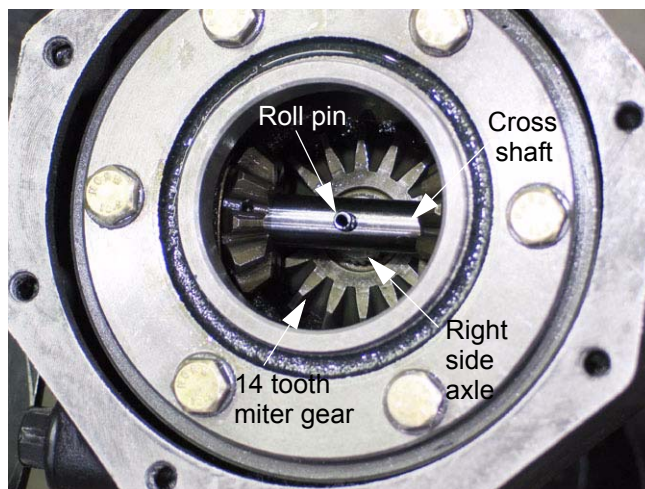

Figure 9.44
9.44. Place the differential assembly into the right side axle housing. See Figure 9.44.